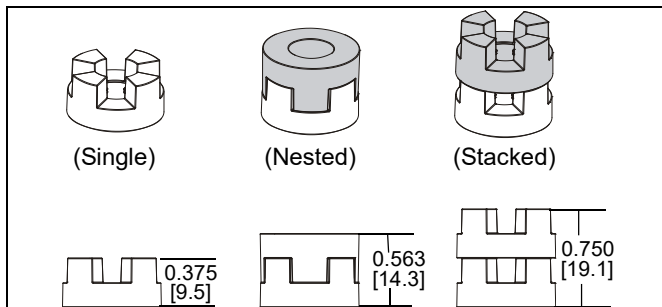

Figure 23
NOTE: The nesting spacers (AG) may be used separately, or put two together in different configurations to create different size spacers. (See Figure 23)